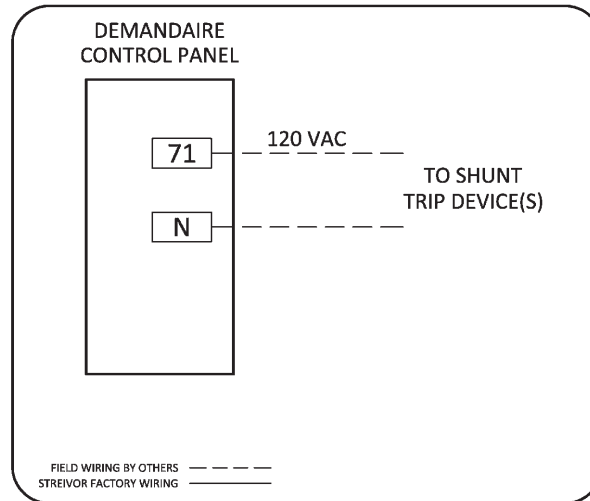

FIGURE 13: Optional Shunt Trip Wiring
- Terminal block 71 can be used to provide power to a shunt trip device to comply with NFPA 96 Section 10.4.1. Terminal block 71 provides 120 VAC power upon fire suppression system activation (*Figure 13*).